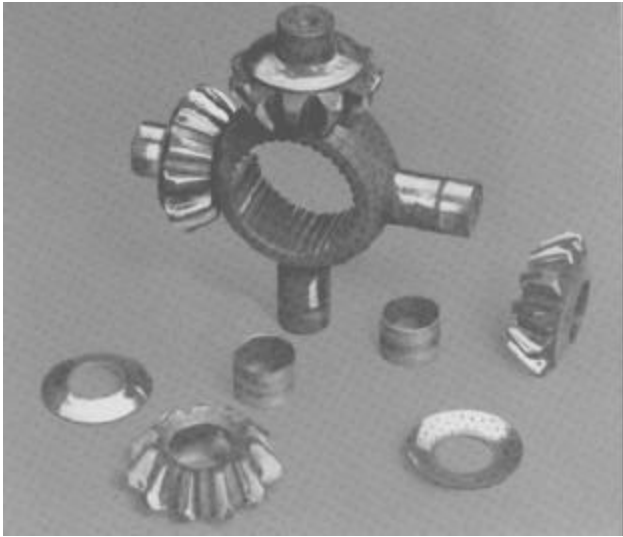

**Figure 50 Teeth Missing in Side Gear**
- b. Inspection of the inner case shows the side gear with its teeth missing (Figure 50). The gear teeth are extremely marred from the metal ground into them. The fractures show a rough crystalline appearance typical of an instantaneous shock load failure.